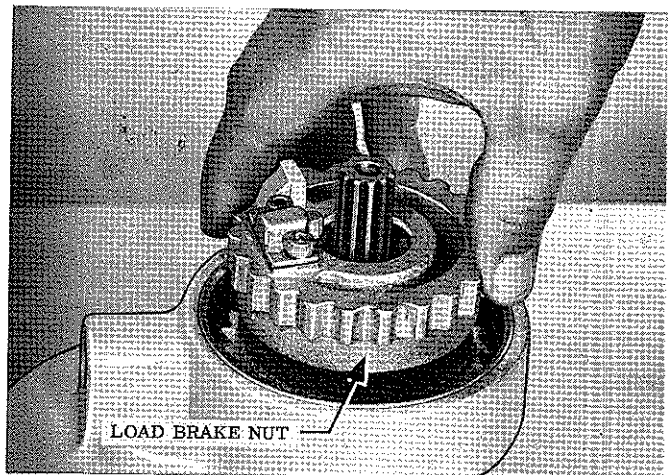

Figure 6-6. Removing Load Brake Nut
e. Remove load brake nut, Figure 6-6, by turning in a clockwise direction. The lockout spring and plunger